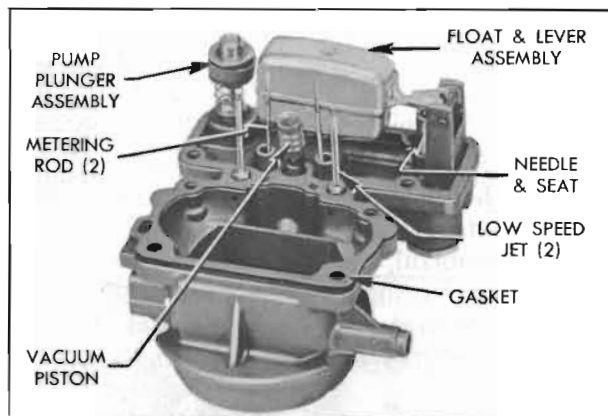

Figure 3-33—Air Horn Parts
vacuometer link, then remove link from air horn. Leave metering rod spring in link. See figure 3-33.
8. Remove float lever pin and lift off float assembly. Shake float to see if it is "loaded" with gasoline due to a leak. Remove float needle seat, and gasket. Remove both low speed jets from air horn. See figure 3-33.